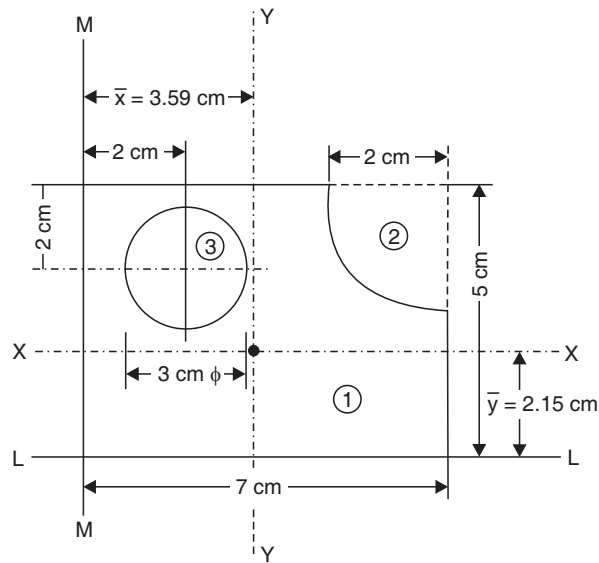

Fig. 4.23
**Example 4.4.** Determine the location of the centroid of the plane figure shown in Fig. 4.23.
**Sol.** Refer to Fig. 4.23.